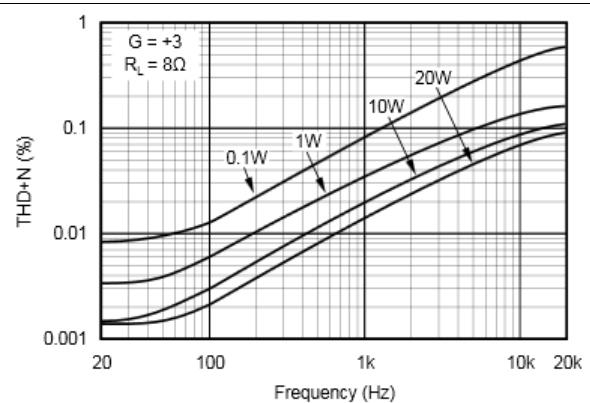

Figure 12. Total Harmonic Distortion+Noise vs Frequency
(1) High-speed test at $T_J = 25^\circ\text{C}$.
(2) Positive conventional current flows into the input terminals.
(3) See Figure 12 for additional power levels.